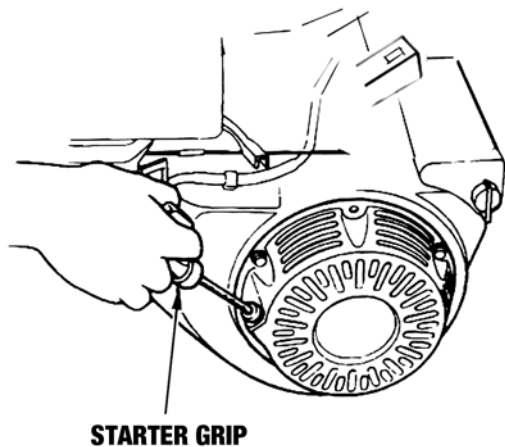

figure 7.2
5. Wearing eye protection, slowly pull the recoil start grip handle (See figure 7.2) in an upward motion. This should force the fuel out of the cylinder cavity through the spark plug hole. **Caution: This gasoline spraying out of the cylinder cavity is very flammable, use extreme caution and make sure there are no sparks or flames nearby.**